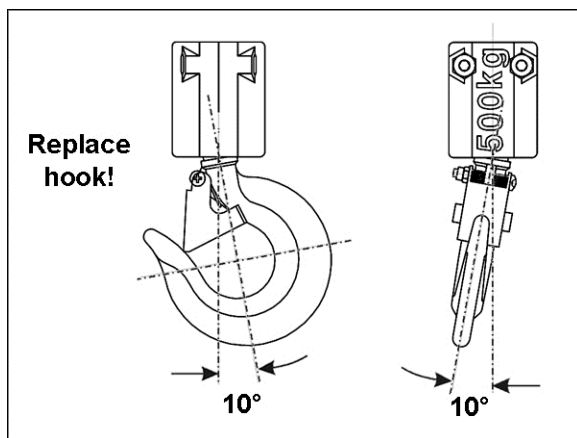

Figure 12
2. The vertical angle at the neck of the hook reaches  $10^\circ$  (see Figure 12).